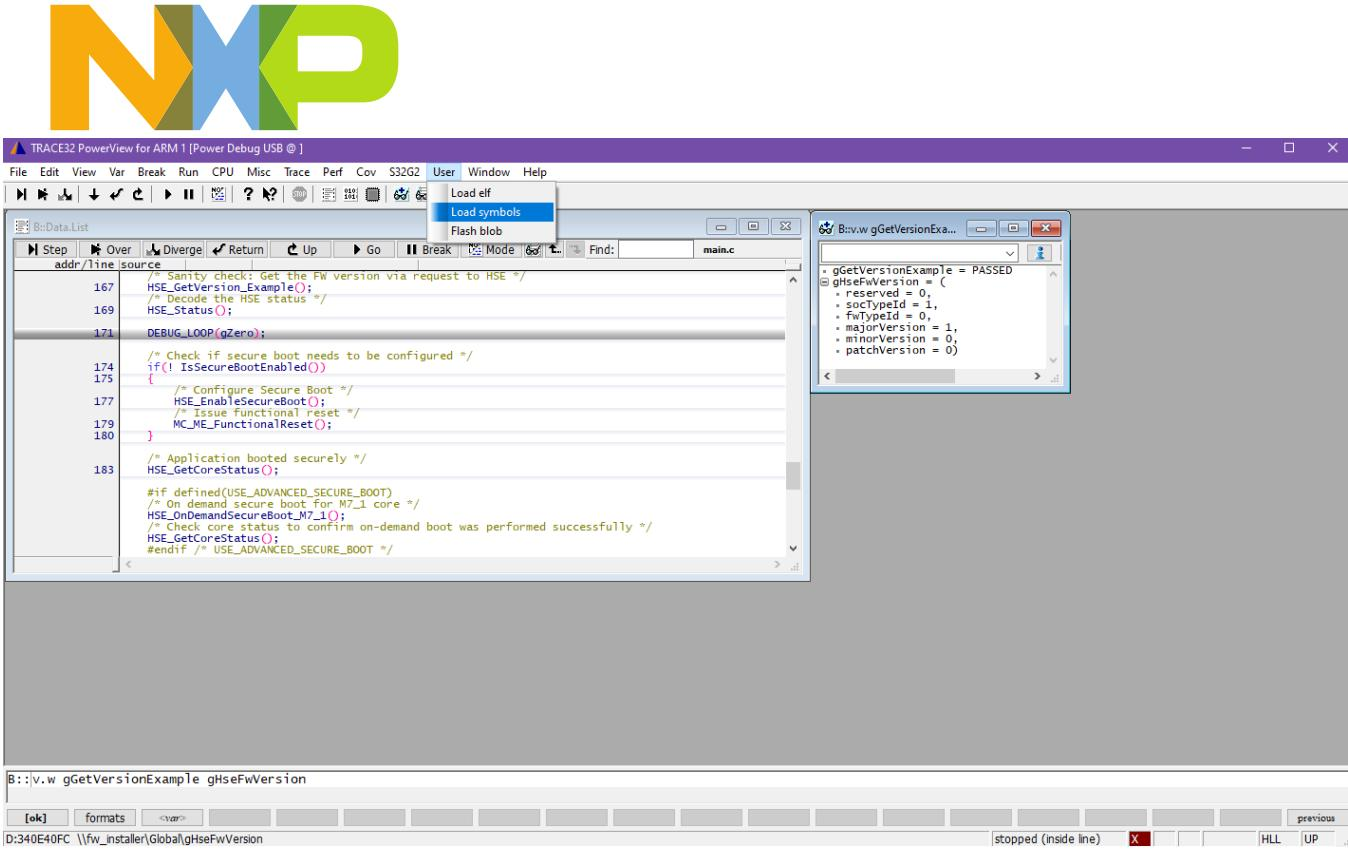

Figure 9 Loading the application symbols and confirming HSE is running
- 9) If not already done so in step 5) using the terminal emulator, validate that the HSE FW version has been correctly retrieved from the HSE – see **Figure 9**: